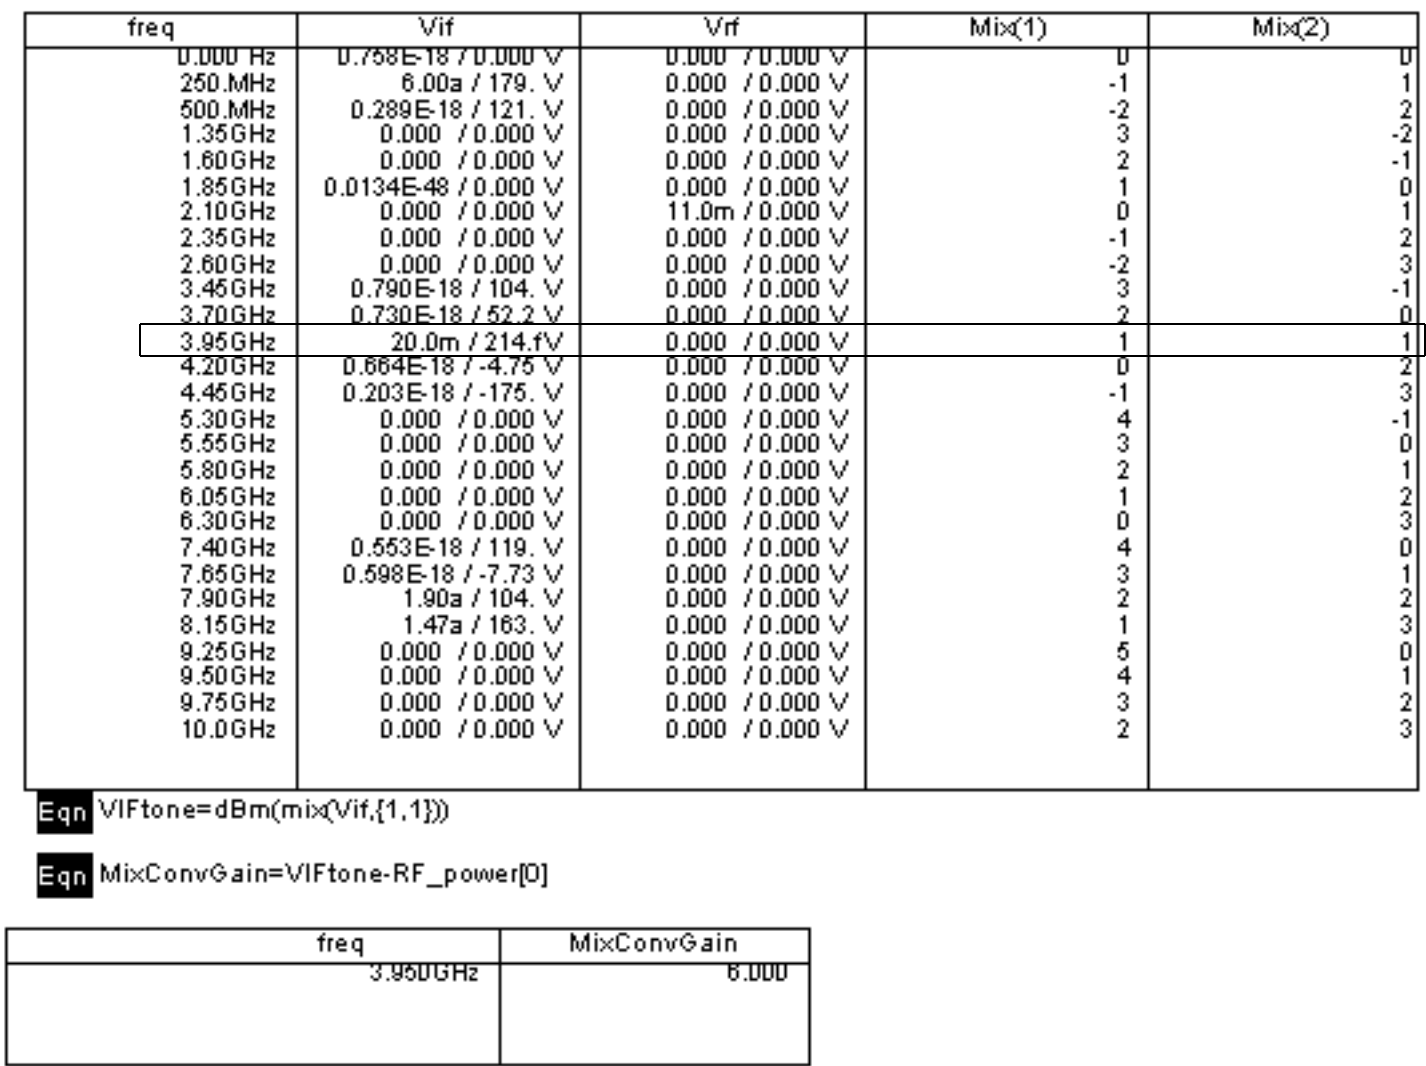

Figure 4-4. Mixer conversion gain indexes, equations, and plot
- Plot Mix(1) and Mix(2) in List format. This will show you the coefficients that generated the sum and difference tones. In this example we are interested in the fundamental IF tone  $f_{LO} + f_{RF}$ . As indicated in the area outlined in Figure 4-4, these coefficients are 1,1.
Figure 4-4 shows the mixing indexes, the equations, and a List plot of MixConvGain. This figure, 6.000, is precisely the value assigned to the parameter ConvGain in MIX1.